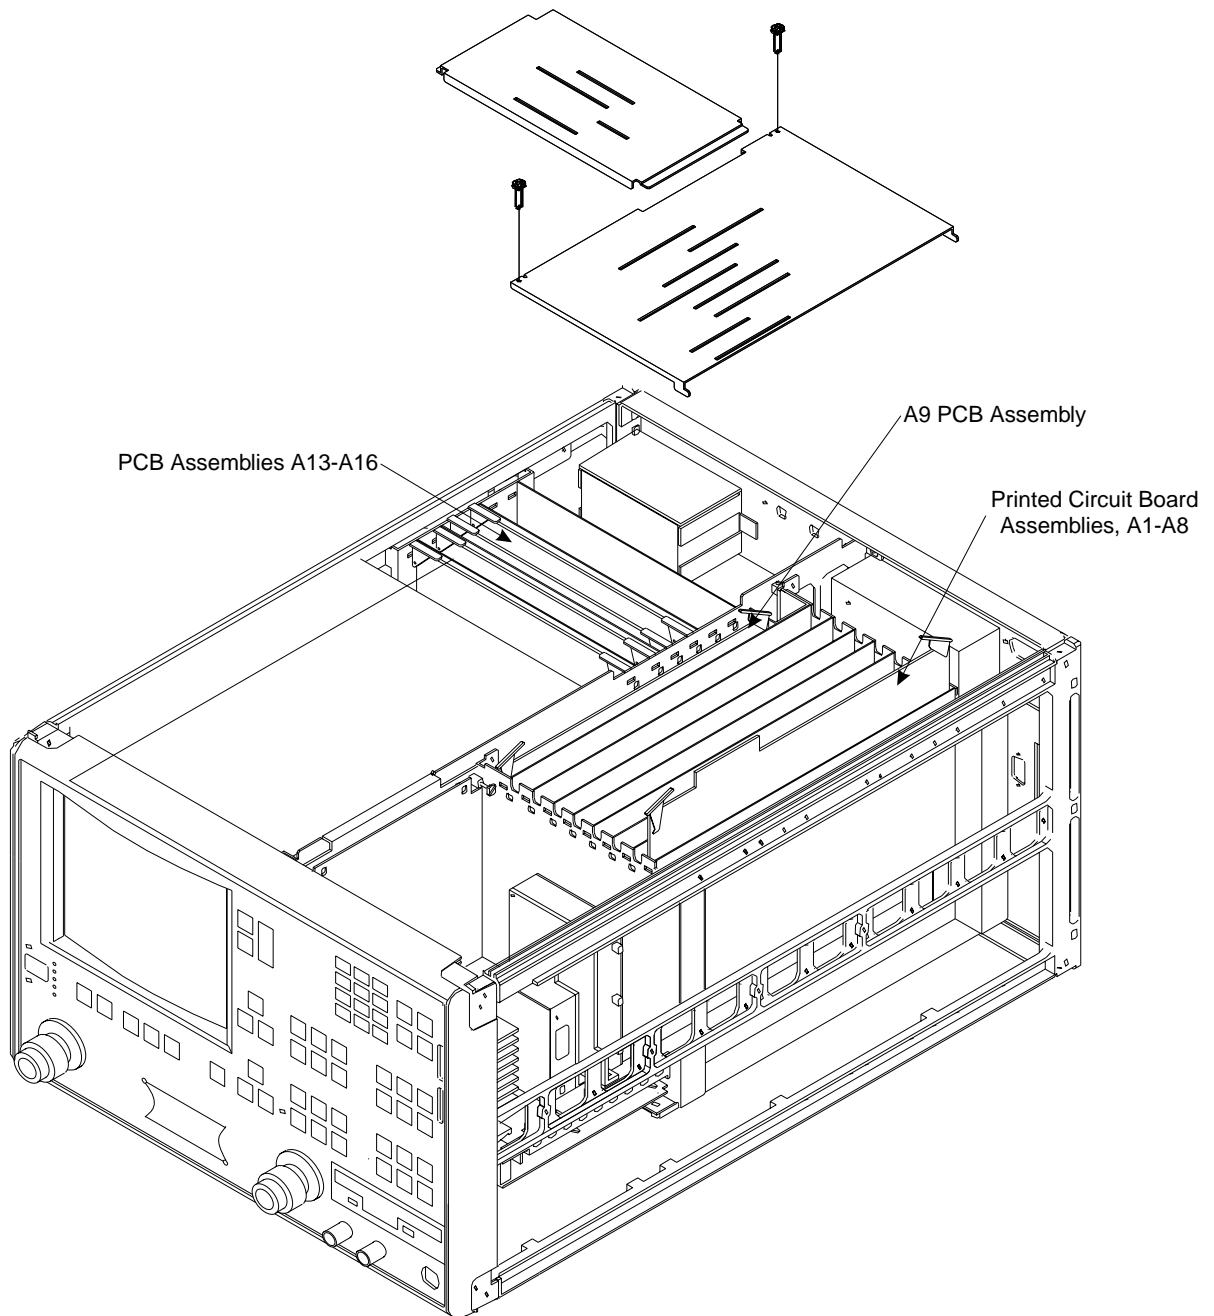

Figure 8-2. A1-A9 and A13-A16 PCB Assemblies Removal Diagram
- Step 2. Remove the two screws that secure the large card-cage cover (Figure 8-2).